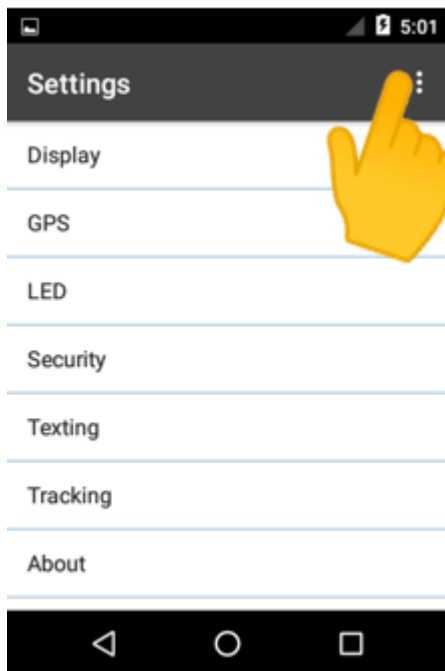

Figure 89: Tap 3 Dots at the top right of the *Setting* screen
16. Tap the **3 vertical dots** at the top right of the *Setting* screen (see **Figure 89**).